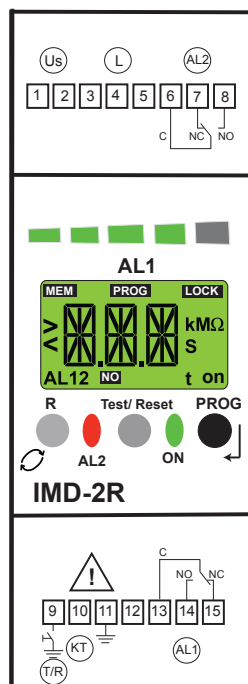

Figure 1: Device terminals.
The device features a **Test/Reset** input (terminal **9** in **Figure 1**) in order to be able to perform:
- ✓ **AL1** (terminals 13, 14 and 15 in **Figure 1**) alarm relay for disconnecting the motorised device via the **IMD-2R**, due to an insulation fault.
- ✓ **AL2** (terminals 6, 7 and 8 in **Figure 1**) prealarm relay that indicates that the insulation resistance is below the programmed prealarm margins.